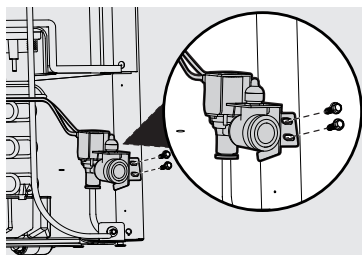

Figure 12
15. The water valve location has pre-made holes on the right rear of the unit. The water line should be oriented downward when the valve is installed. Install the water valve using a  $\frac{1}{4}$ " hex head driver, install the 2 hex head screws. Tighten screws until they are snug and then tighten an additional  $\frac{1}{4}$  turn. See Figure 12.